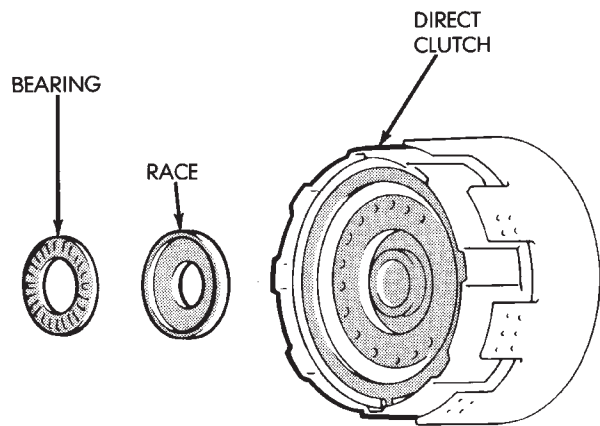

Fig. 31 Remove Bearing And Race From Clutch Hub
(39) Remove thrust bearing and race from clutch hub (Fig. 31).